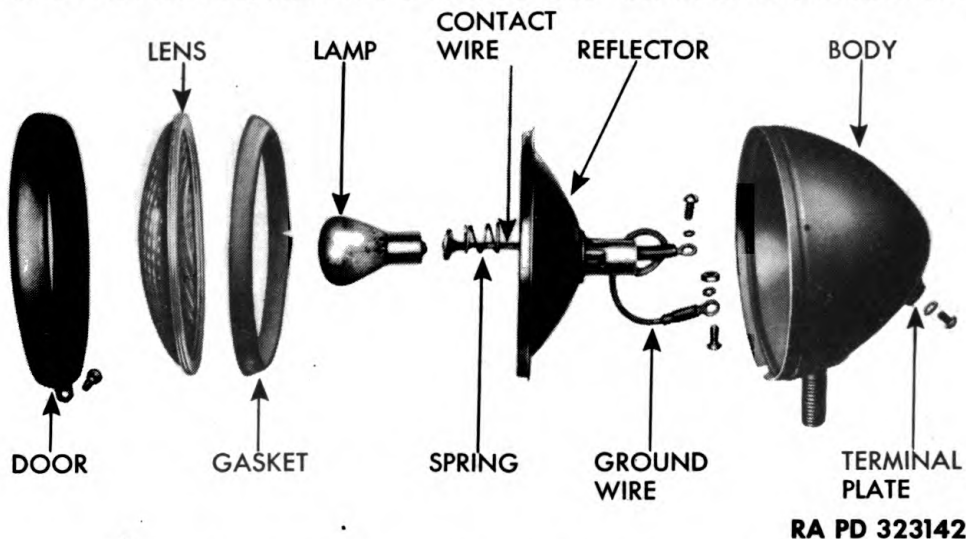

Figure 143 — Rear Flood Light Disassembled
b. **Disassemble (fig. 143).**
(2) Replace contact wire spring if it is broken or weak.
(3) Solder broken wire connections, or replace with new wire where necessary.
d. Assemble (fig. 143).